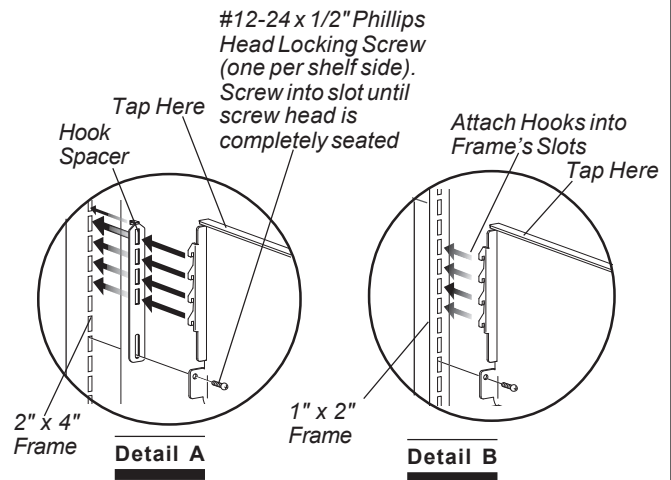

Figure 3
If the Suspension Shelf is to be mounted on a 2" x 4" Frame, install a Hook Spacer as shown in Detail A, Figure 3.
3. Install the Suspension Shelf into the Frame's slots so the Hooks seat completely (in and down) into the slots. Refer to Details A and B, Figure 3.
4. Install a #12-24 x 1/2" Phillips Head Locking Screw through each Hook and into the Frame slot (as shown in Details A and B, Figure 3) until the screwhead is tightened securely.